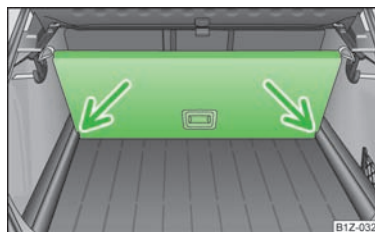

Fig. 57 Luggage compartment: Dividing the luggage compartment with variable loading floor
► Lift up the part with the holder and secure it by sliding it into the grooves marked with the arrows » Fig. 57.